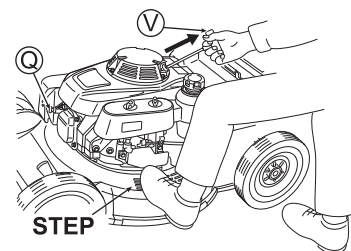

Fig. 13
1. Install the spark plug cap (Q). (See Fig. 13)
4. To start the engine, step one foot on the step of the housing, lightly pull the starter knob (V) and temporarily stop at a position where you feel heavy to pull the knob, and then powerfully pull it from that position. After that, return the starter knob (V) slowly. (See Fig. 13)